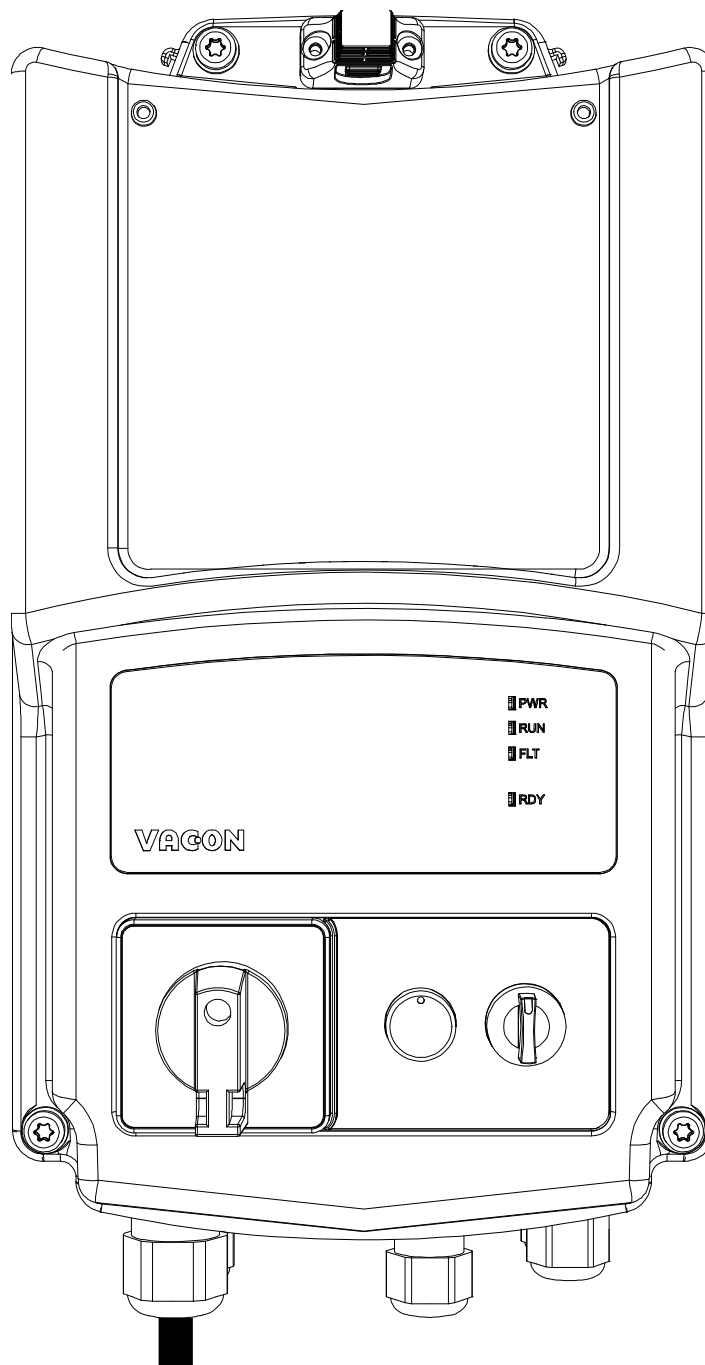

Figure 70. Mount the plastic cover.
- Mount the plastic cover onto the drive with its screws (use torque 2Nm) and the HMI cap: the installation process has been completed. See Figure 70.